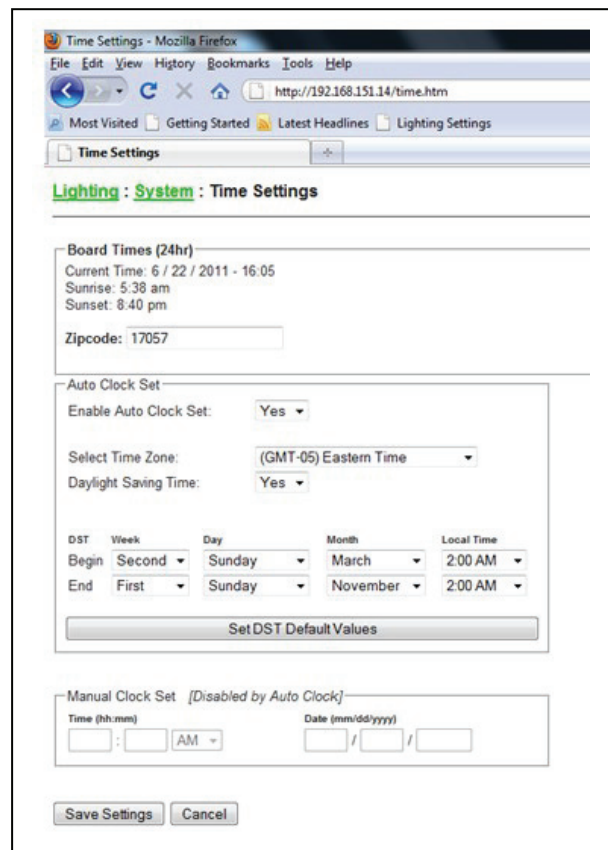

Figure 4
- B. To adjust the time, day or daylight savings day/time click on the "Adjust Time Settings" button and you should see a screen similar to the one shown in **Figure 4**. You can also use this screen to change the zipcode from the 17057 default and change the time zone from the default Eastern Time Zone.